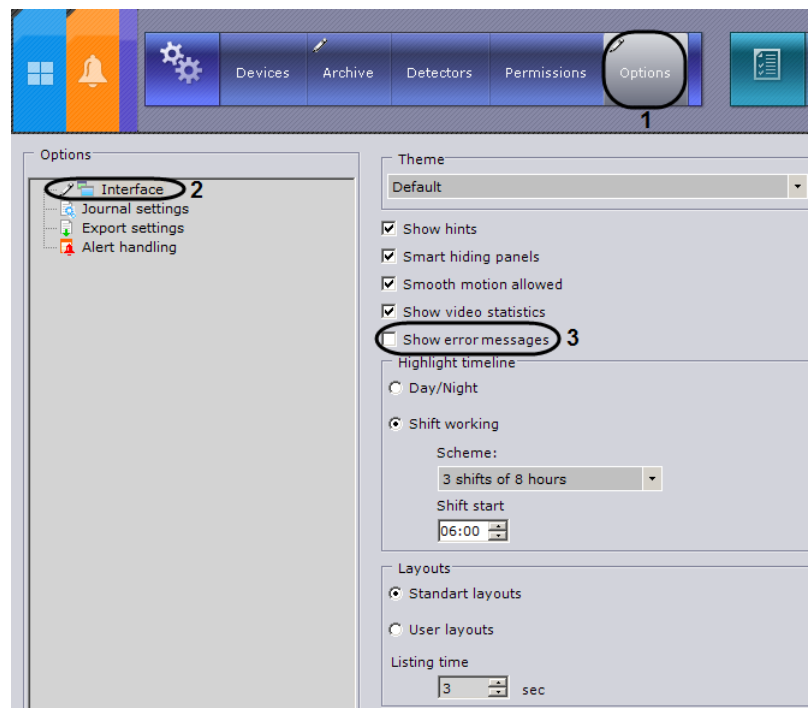

Fig. 6.8—9 Configuring display of error messages
2. Deselect the **Show error messages** checkbox (see Fig. 6.8—9, 3).